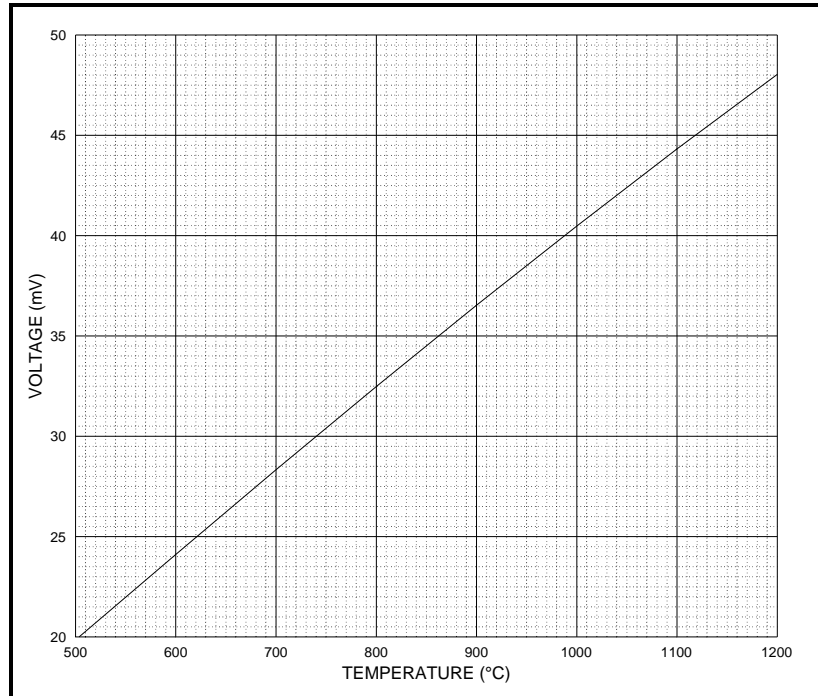

Figure 5-1: TC Voltage vs. Temperature
**Note:** *If a voltage reading other than those listed above is obtained, refer to Figure 5-1 and/or Table 5-2 on page 5-4 to determine the operating temperature of the sensor furnace. A standard CGA 351 operates at a temperature of 700°C.*